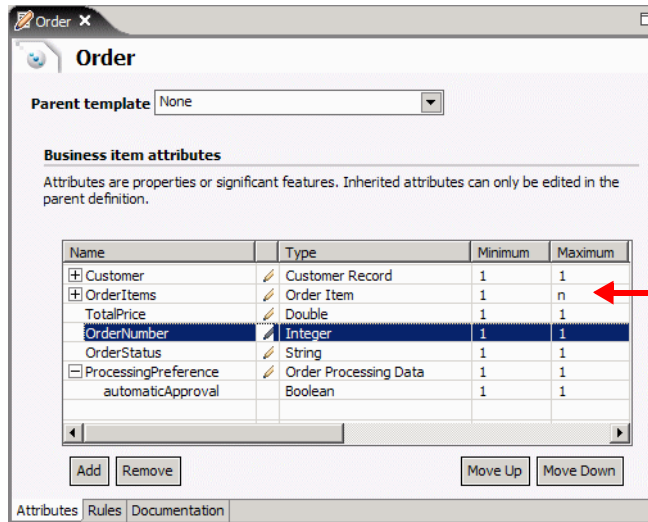

Figure 4-8 Business item: Order
- ▶ **Order**—The Order is the main business item that flows through the whole process (Figure 4-8). An order consists of an OrderNumber, an OrderStatus, the TotalPrice of the order, a Customer with all its information, the OrderItems (which products), and a processing field (automaticApproval coming from **Order Processing Data**).